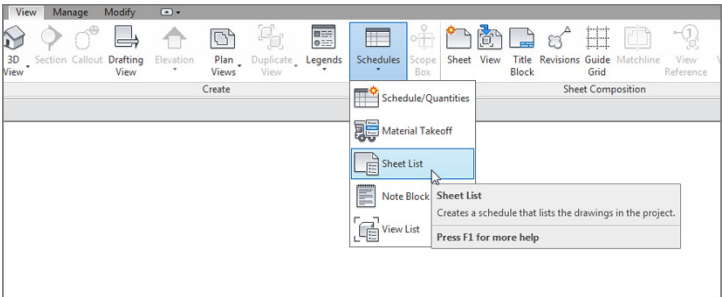

FIGURE 14.23: Selecting Schedules > Sheet List on the View tab
- 1. On the View tab, click Schedules > Sheet List, as shown in Figure 14.23.